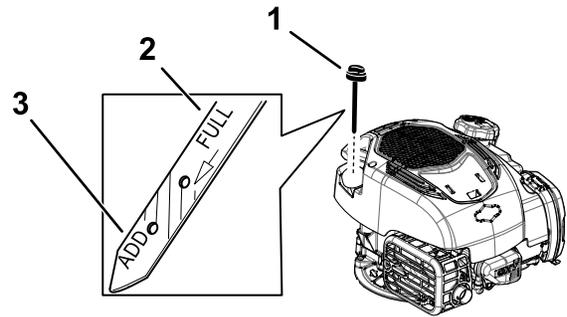

Figure 10
6. Read the oil level on the dipstick (Figure 10).